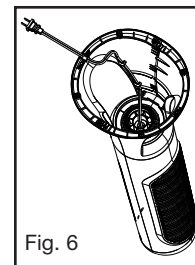

Fig. 6
- Gently place the fan on its side, pressing the cord securely into cord guides (Fig. 6) along the inside of fan base, exiting through the notched opening (Fig. 6) ensuring a flat and stable base for the fan.